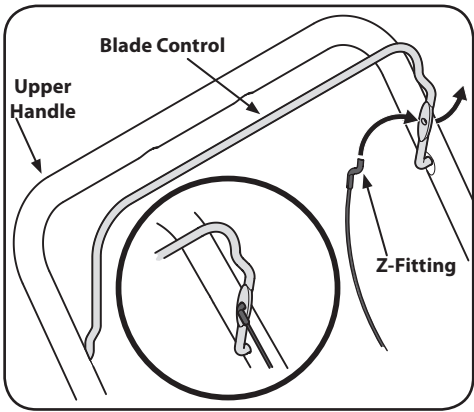

Figure 2-2
- 1. Hook the Z end of the brake cable into the control from the outside to inside. See Figure 2-2.